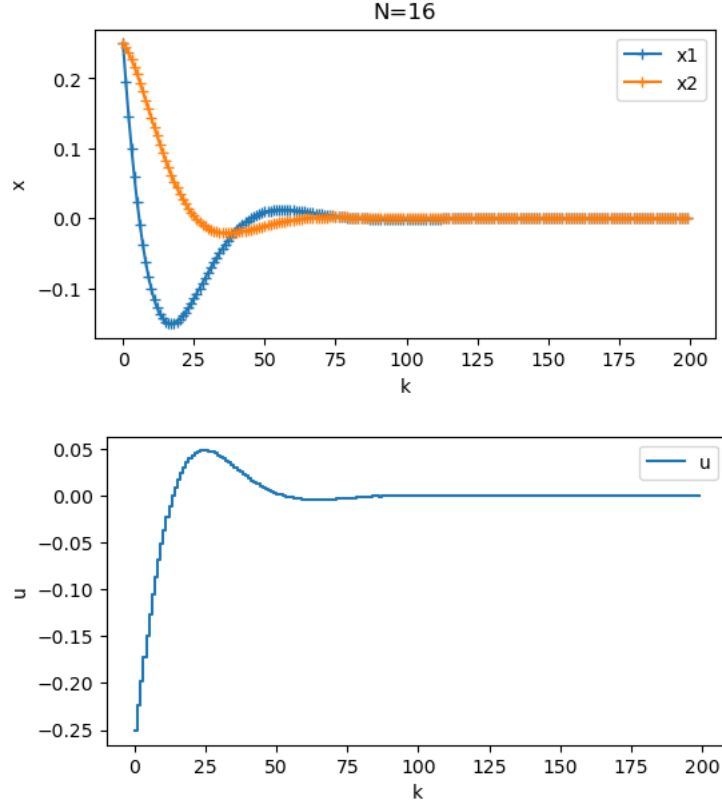

Figure 8: The input and state trajectories for Approach 1 MPC using  $N=16$ .
We see that  $J_{L1}$  is minimized when  $N = 16$ . and above. However, if  $N > 16$ , the computational requirements increase without any benefit to the control performance (maybe very small improvements). We find  $u^*$  using the cost function (23). The state and input trajectories are presented in Figure 8.